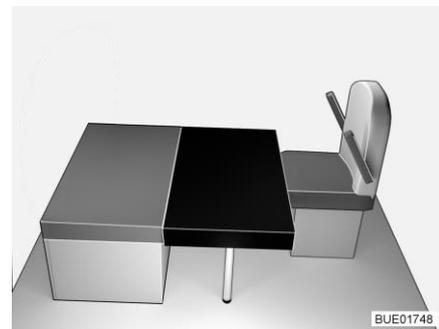

Fig. 152 After conversion
- Place the rectangular additional cushion on the table (in front of the seat cushion of the bench, see Fig. 152). When doing so, the cutout in the additional cushion is located on the frontal supporting wall.